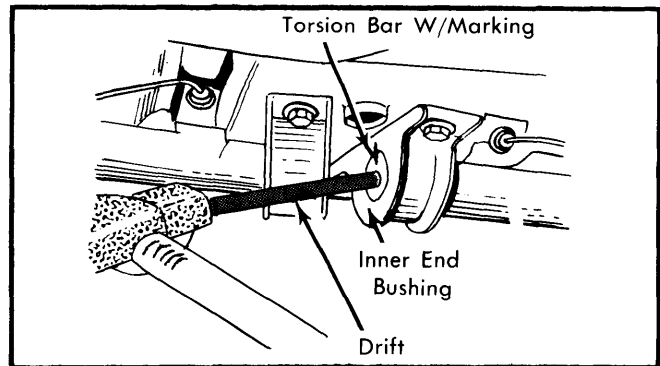

Fig. 2 View Showing Removal Procedure For Torsion Bar
- 5) Holding trailing arm so torsion bar does not twist, disengage serrations by tapping inner end surface of torsion bar See Fig. 2.